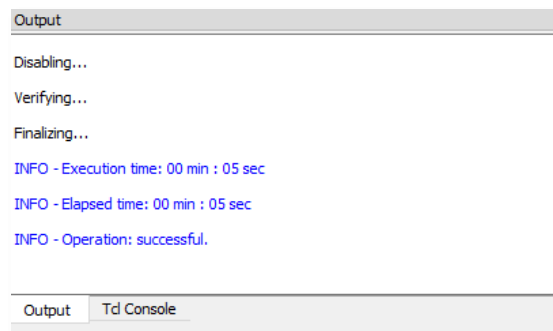

Figure 5.8. Output Console
7. Once programming is successful, the output console displays the message shown in Figure 5.8. If programming fails, select **Detect Cable** in the right pane of the programmer.